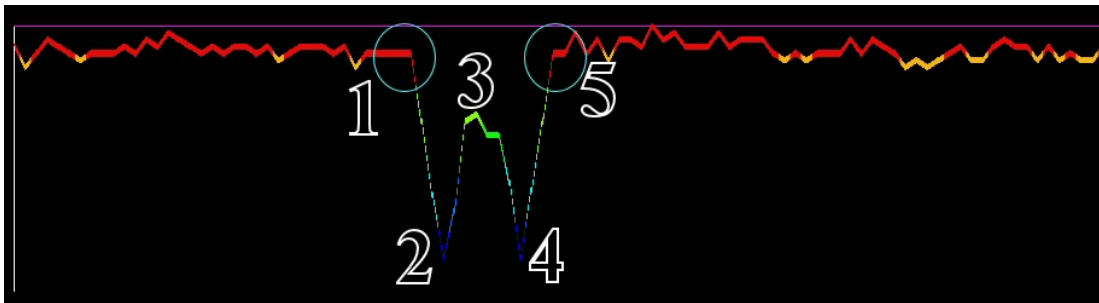

Figure 4.9
5. In Figure 4.9, all of the points of this type of tunnel are explained.